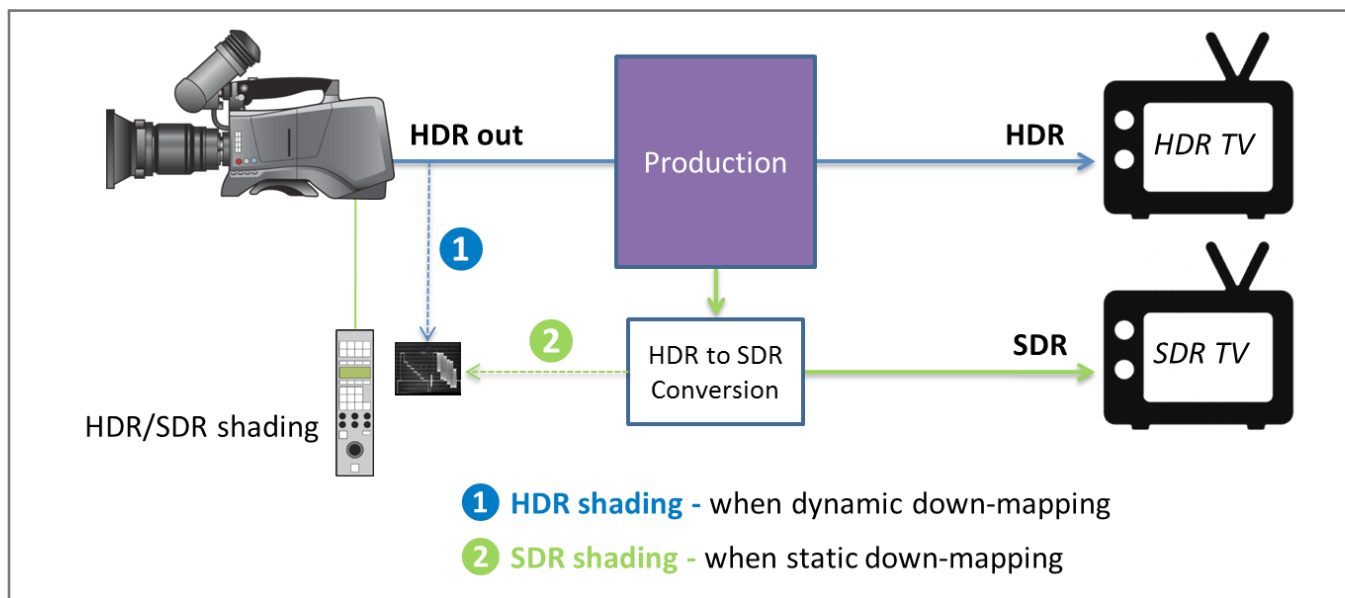

Figure 14 – Optimum camera shading depending on the HDR/SDR downmapper.
- » *Depending on the downmapping, shading needs to be done on HDR or SDR (see Figure 14).*